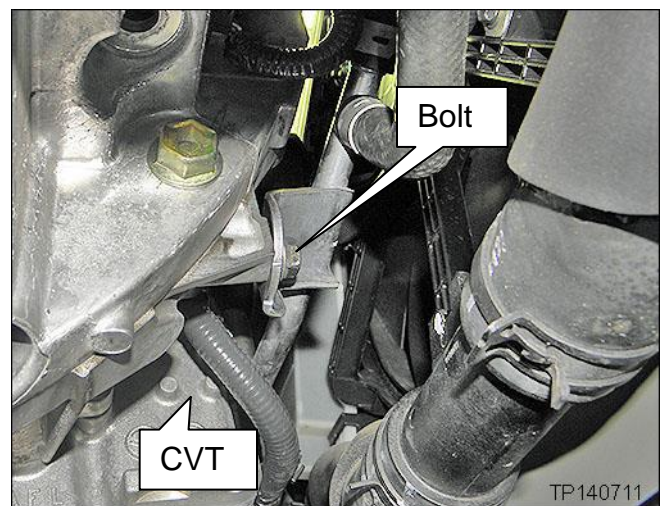

Figure 6
- One of the cooler line mounting bolts is shown in Figure 6.